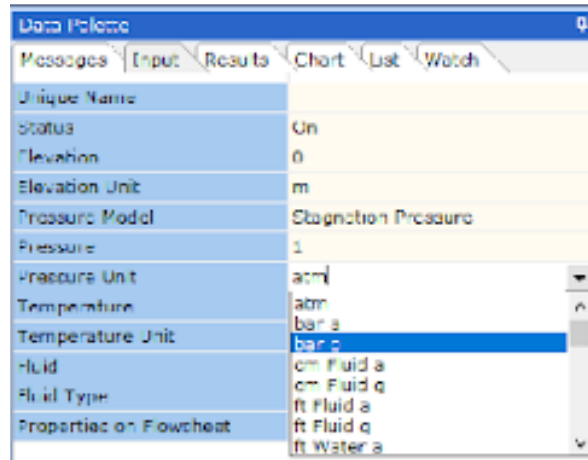

Figure 12: Pressure Units.
- In this case we need to change the *Pressure Unit* from the default **atm** setting to **barg**. Left mouse-click on the *Pressure Unit* field and you will see a drop-down arrow symbol appear on the right-hand side. Click on this symbol and a drop-down menu will appear showing the various units you can choose from. Select **barg** from the list (Figure 12). We have now successfully changed the pressure units for both nodes.